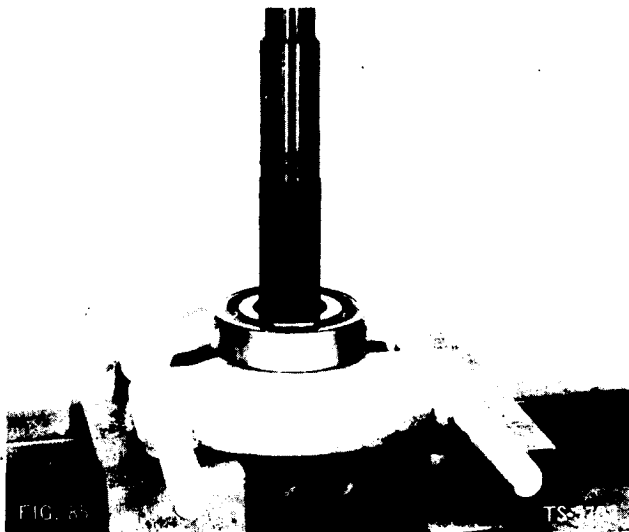

FIG. 84
3. Remove inner pinion bearing retaining ring (Fig. 84).